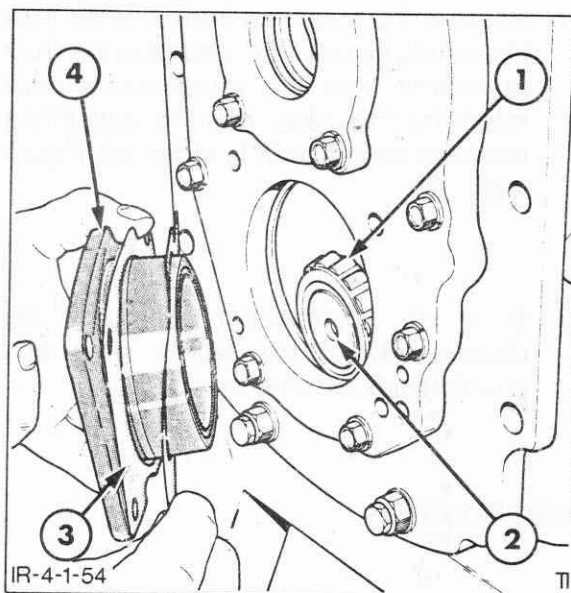

Figure 4-54
10. If the pull required to rotate the countershaft is outside the specified limits, remove the rear cover and bearing cap and add or delete shims as required, Figure 4-54, and repeat the procedure.